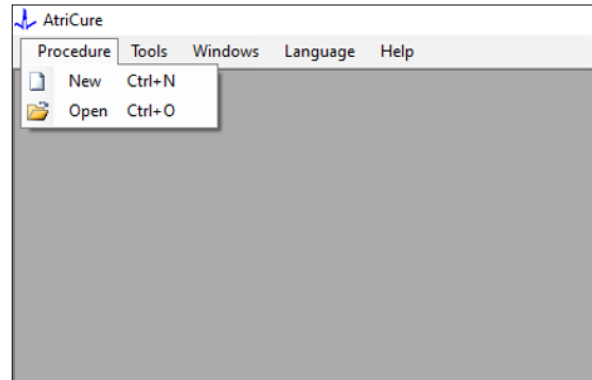
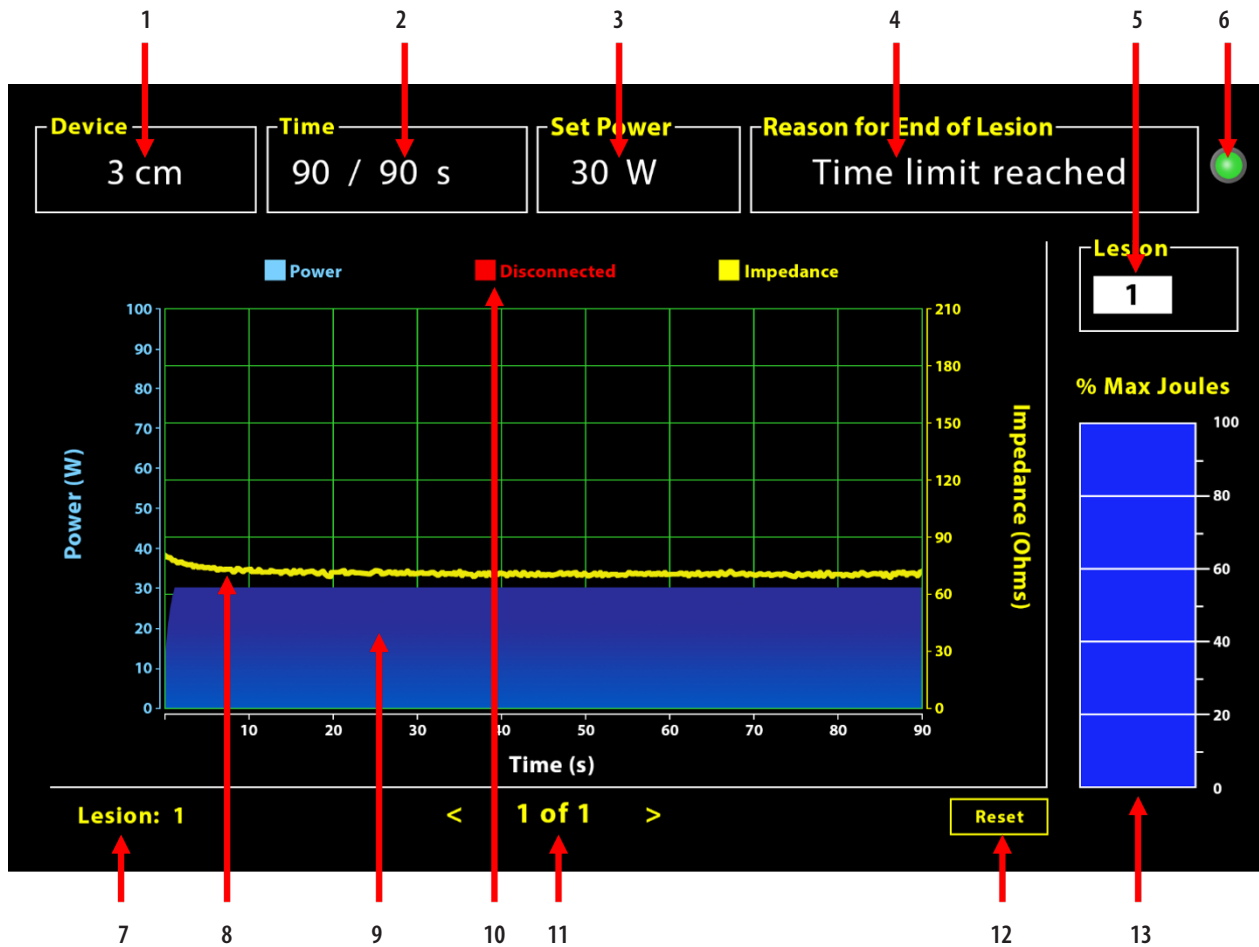

Figure 4: Option for opening a new procedure window
Figure 5: Software interface layout
2. Selecting Procedure > New opens the following window (refer **Figure 4** and **Figure 5**):
The Generator continues to deliver RF energy for ablation unless one of the three criteria is satisfied. These reasons will be displayed in the “Reason for End of Lesion” window [#4 in Figure 5]: